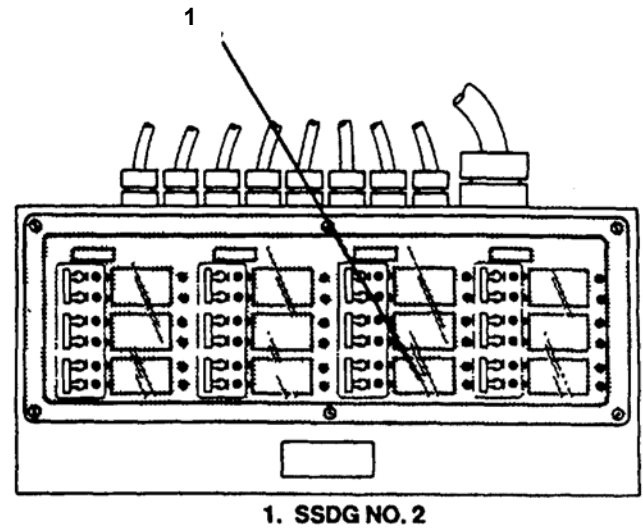

Figure 2-222. Machinery DC Control Distribution Panel.
(1) Ensure MONITORING SYS CRT and REMOTE PROPULSION INDICATING PANEL SYS circuit breakers are ON and system is operating before proceeding.
b. Machinery DC Control Distribution Panel (Figure 2-222).
(1) Set SSDG No. 2 circuit breaker (1) to ON position.